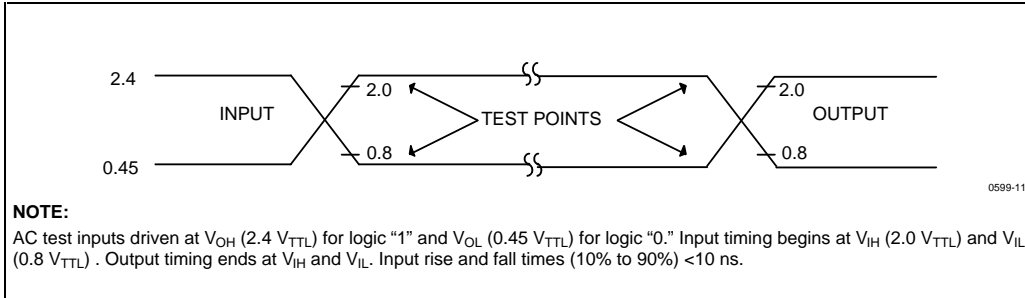

Figure 12. Standard Test Waveform
1. 10% V_{CC} specifications apply to the standard test configuration (Figures 12 and 13).